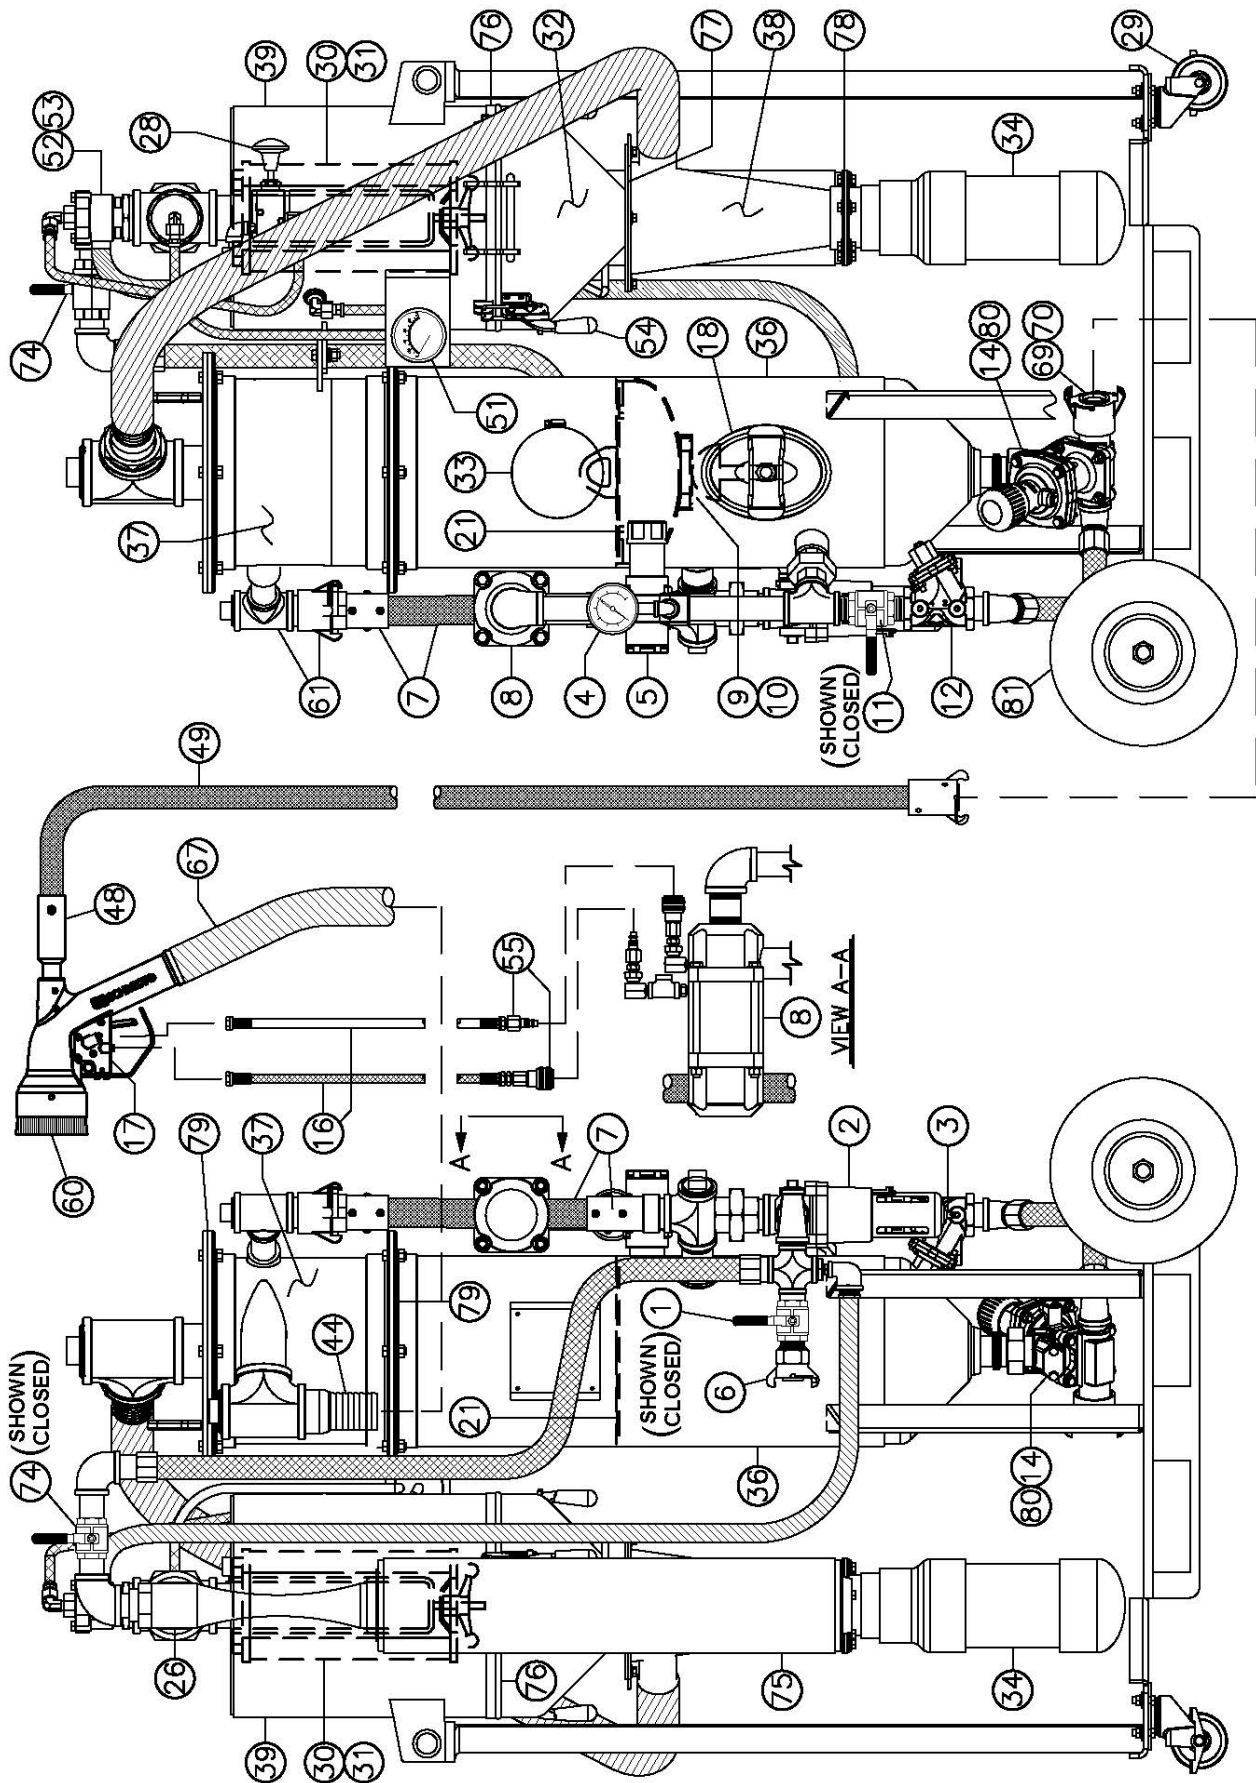

Figure 7.2 – Typical MiniBRS™ Abrasive Blaster
- 7.2.6. Slowly open the air inlet ball valve (#1). The ball valve is closed when the handle is perpendicular to the body. See Figure 7.2.
- 7.3.5. Connect the vacuum hose (#67) between the vacuum workhead and the reclaimer vacuum port (#44). See Figure 7.2 and 7.3.
7.4 Ending the Blast Operation (See Figure 7.2)
- 7.4.2. Close the air inlet ball valve (#1). The ball valve is open when the handle is fully turned to the position shown in Figure 7.2 (handle perpendicular to body). The handle tab will bottom against the ball valve body in the closed position.